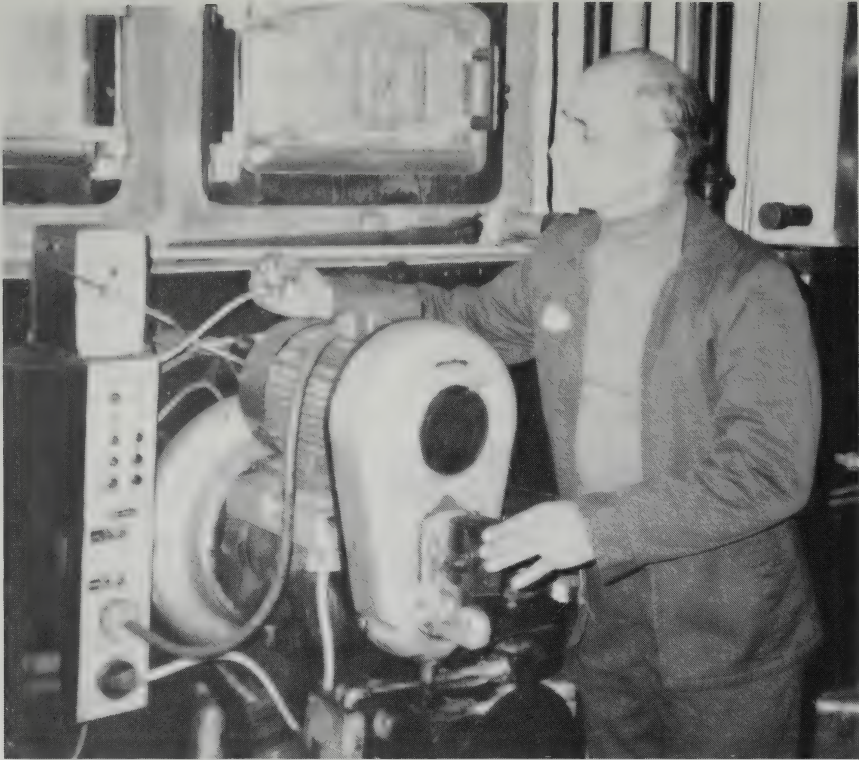

Figure 8-2. When the flame scanner is removed, the burner should shut off in a flame failure condition.
3. Remove the flame scanner with the burner firing. The burner should shut off as in a flame failure condition. Clean the flame scanner, replace it, and reset the programmer. Check for proper operation as the boiler goes through a firing cycle and lightoff. See Figure 8-2.